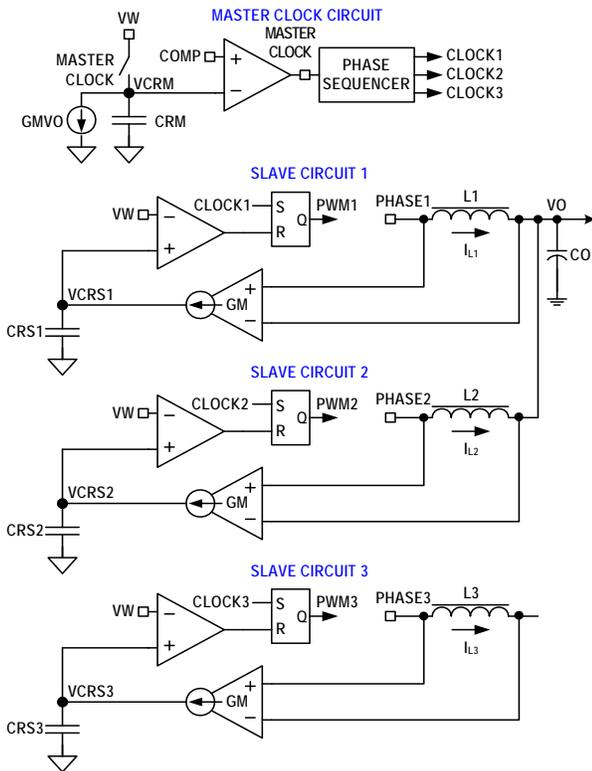
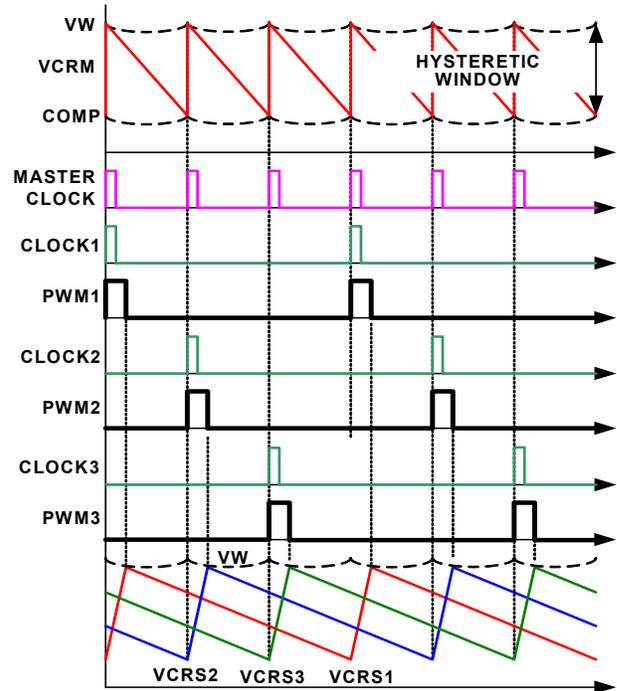

FIGURE 7. R3™ MODULATOR CIRCUIT
FIGURE 8. R3™ MODULATOR OPERATION PRINCIPLES IN STEADY STATE
The ISL62773A is a multiphase regulator implementing two voltage regulators, CORE VR and Northbridge (NB) VR, on one chip controlled by AMD's™ SVI2™ protocol. The CORE VR can be programmed for 1-, 2- or 3-phase operation. The Northbridge VR can be configured for 1- or 2-phase operation. Both regulators use the Intersil patented R3™ (Robust Ripple Regulator) Modulator. The R3™ Modulator combines the best features of fixed frequency PWM and hysteretic PWM while eliminating many of their shortcomings. Figure 7 conceptually shows the multiphase R3™ Modulator circuit, and Figure 8 shows the operation principles.